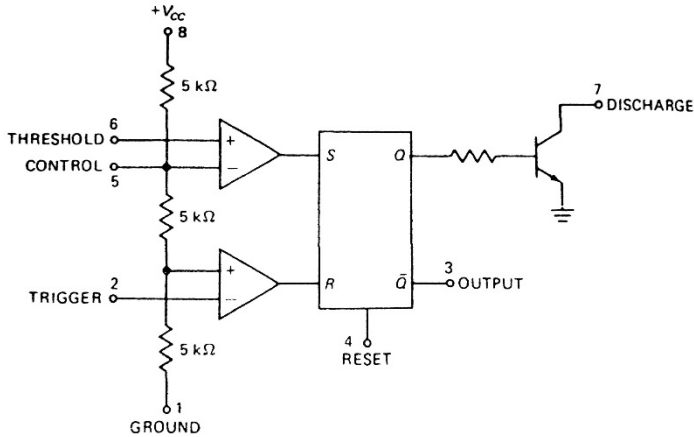

Figure 5.2. Block Diagram of 555 Timer
The NE555 timer introduced by Signetics is an 8-pin IC that can be connected to external components for either *astable* or *monostable* operation. Figure 5.2 shows a simplified block diagram. Notice the upper op-amp has a threshold input (pin 6) and a control input (pin 5). In most applications, the control input is not used, so that the control voltage equals $+2V_{CC}/3$ developed by the three 5 k Ω voltage divider. As before, whenever the threshold voltage exceeds the control voltage, the high output from the op-amp will set the flip-flop.
1. To saturate the transistor of figure 5.2(a), the Q output must be _____ V.